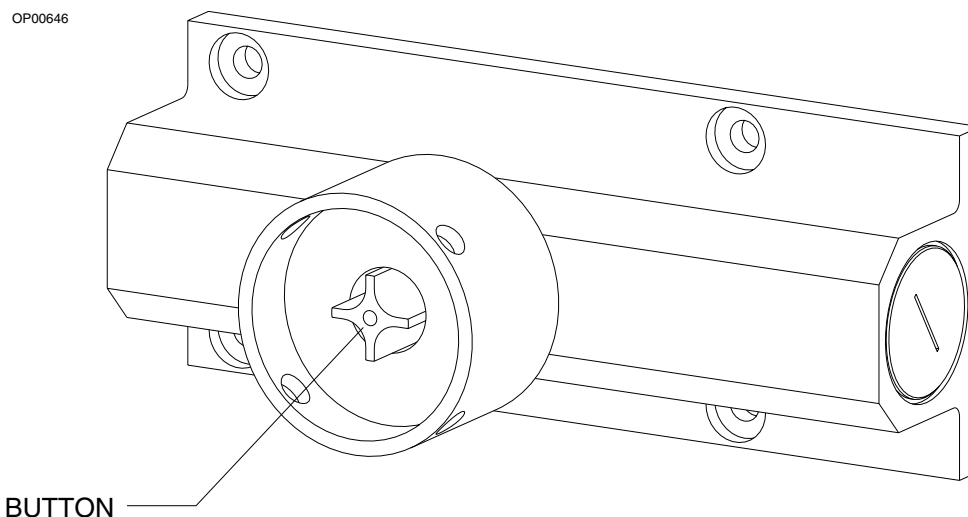

Figure 10-7. Gas Channel Block with Secondary Vacuum Relief Valve
7. If applicable, press the button on the secondary vacuum relief valve, and verify that it operates freely (see Figure 10-7).